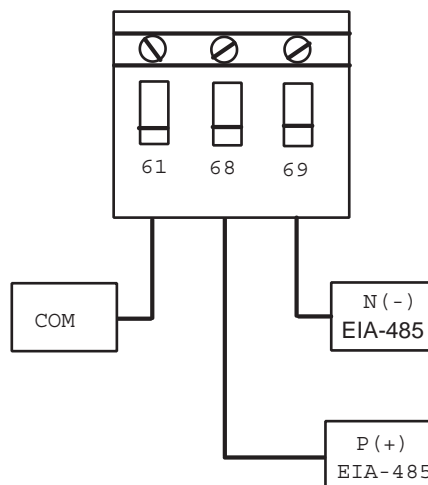

Figure 5. VLT 6000 Network Wiring
1. Connect signal wires to drive terminal 68 (P+) and terminal 69 (N-) on main control board of drive (see figure 5).